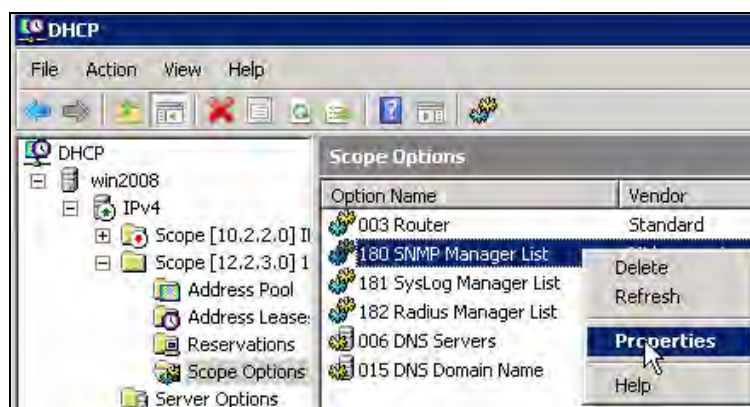

Figure 4-34: SNMP Scope Options
2. Right click and select **Properties**. (Figure 4-34).